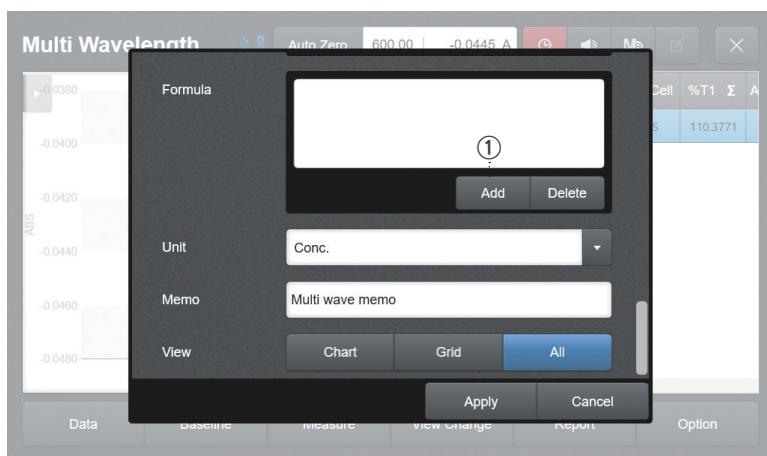

Fig. 3.9
1. [Fig. 3.9] Select the unit item from the list on the settings screen.